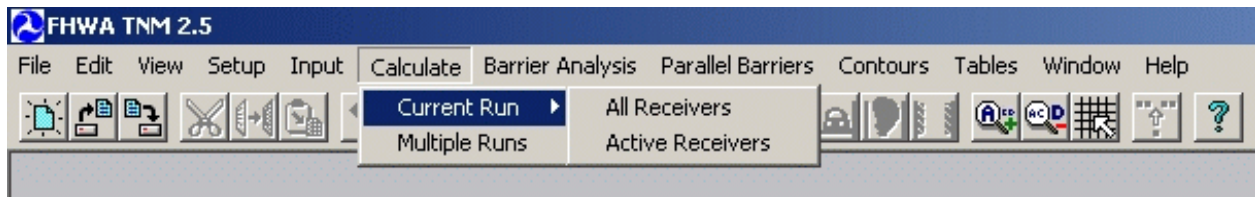

Figure 15. Calculate menu.
2.6.2 Multiple Runs. When the user selects Calculate, two menu options are available (see Figure 15): calculate the sound levels for the Current Run; or calculate the sound levels in batch-mode for Multiple Runs.